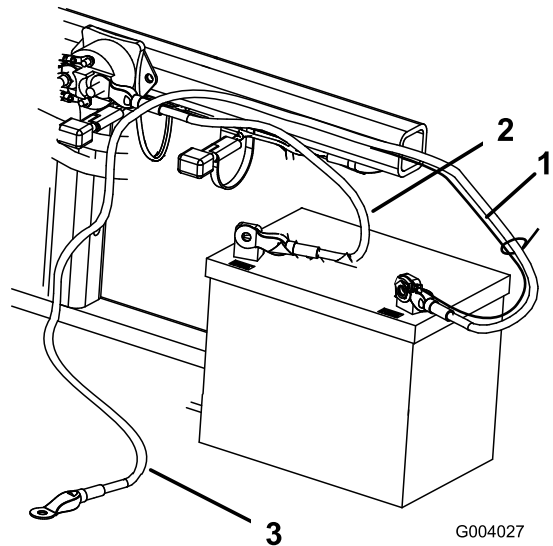

Figure 7
2. Secure the positive cable (red) to the positive (+) terminal with a bolt (1/4 x 5/8 inch) and a locknut (Figure 7).
3. Secure the small black wire and the negative cable (black) to the negative (-) terminal of the battery with a bolt (1/4 x 5/8 inch) and locknut (1/4 inch) (Figure 7).